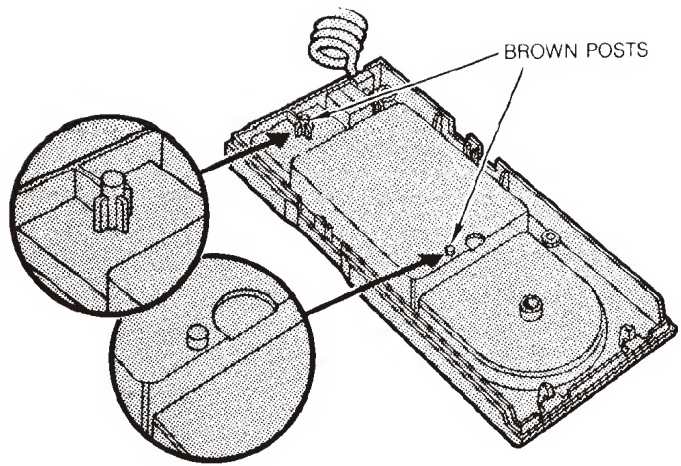

Figure 15
**(8)** Before reinstalling the top housing, make sure the circuit matrix and keypad are securely in place so that the top and bottom holes fit over the small brown posts. See Figure 15.